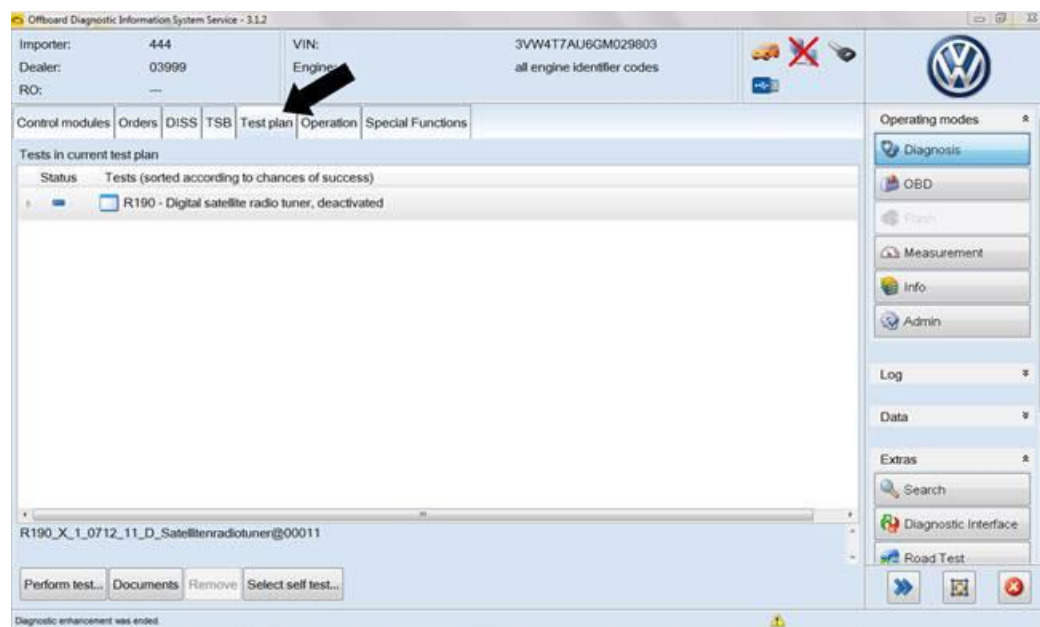

Figure 1
- Once ODIS has loaded, and the vehicle information has been updated, select the “Test Plan” top tab (Figure 1).